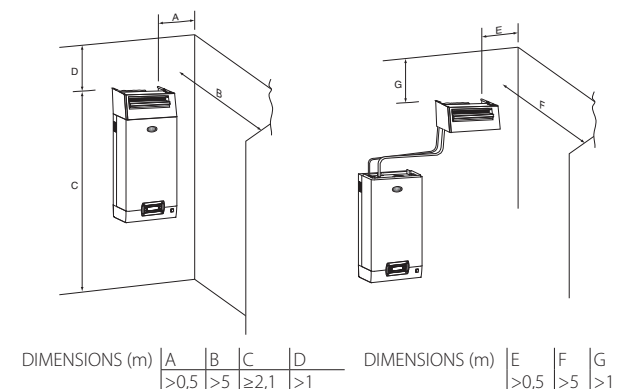

Fig. 3.c
- 2. the "L"-shaped mounting support (see part 1 Fig. 3.c) is supplied with steam distributor models from DP085* to DP025*. For shorter lengths, the support can be supplied as an option (code 18C478A088).
During the operation of the humidifier some of the steam may condense, causing a decline in efficiency and noise (gurgling). To drain the condensate, connect a drain hose with a drain trap and a minimum slope of 5° to the bottom of the humidifier (see Fig. 3.d). CAREL condensate drain hoses: code 1312353APG